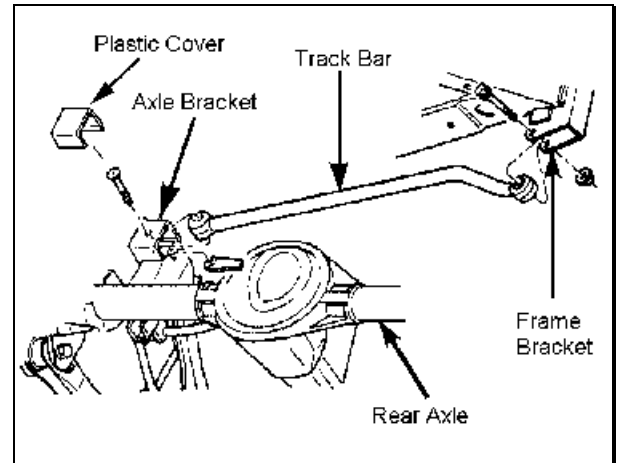

Figure 7
3. ≤ Disconnect the track bar from the frame bracket. See figure 7.
5. ≤ Separate the track bar from the axle bracket. Remove the track Bar. See Figure 7.